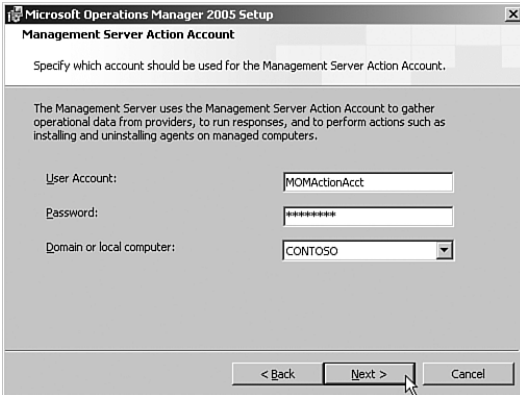

FIGURE 6.7 Specifying the Management Server Action account.
5. Specify the Management Server Action account, as illustrated in Figure 6.7. As described in the “Management Server Action Account” section earlier in this chapter, the Management Server Action account is used for several functions. It runs computer discovery, collects data, and communicates with agents on managed computers.